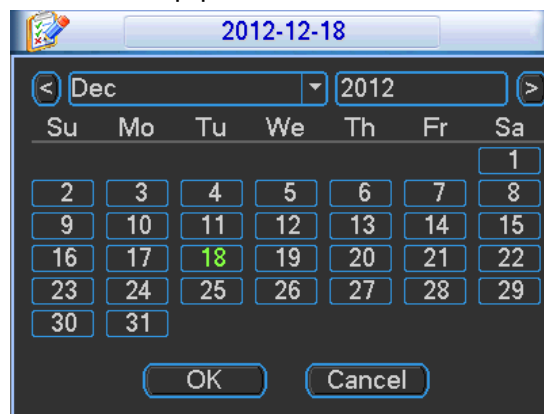

Figure 5-107
- Holiday setting: Click it you can see an interface shown as in Figure 5-107. Here you can set holiday date. Please go to the Holidays Period interface to set the holiday date record setup.